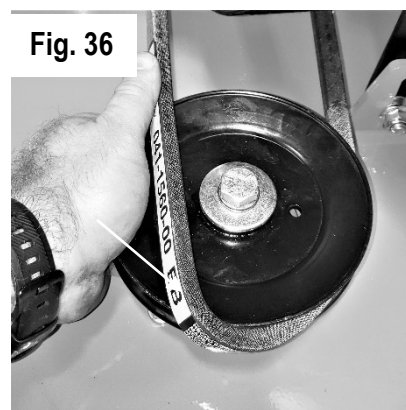

Fig. 36
4. While lifting up on the belt (as shown in Fig. 36), rotate the pulley until the belt is free of the pulley. Exercise caution while performing this step as fingers can easily become caught between the belt and pulley.